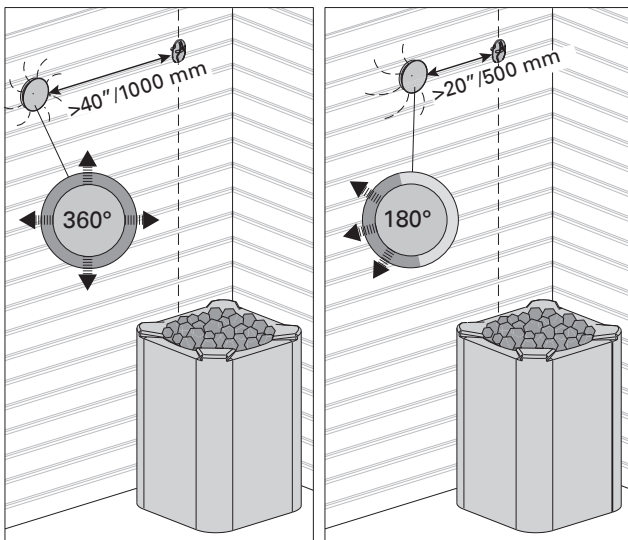

Figure 4. Sensor's minimum distance from an air vent
**Do not place the supply air vent so that the air flow cools the temperature sensor. Figure 4.**